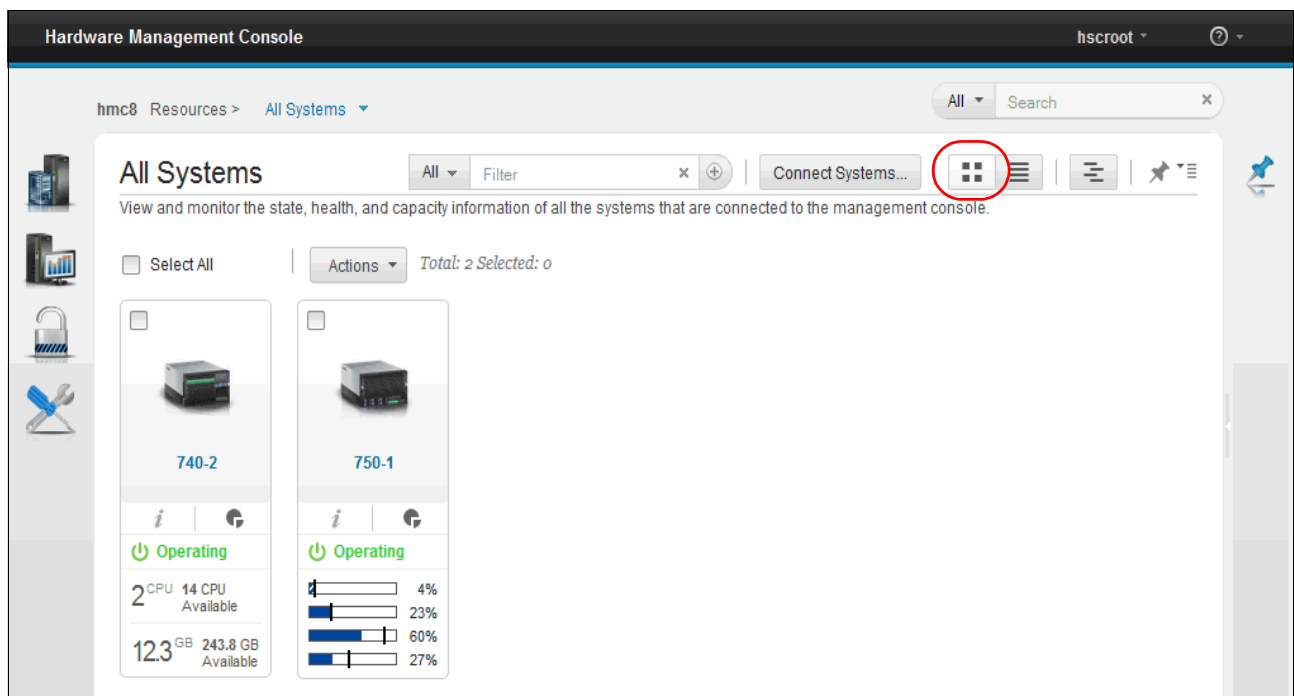

Figure 5-60 Gallery view
After the initial setup and configuration steps, when you log in to the HMC, the server management panel (Resources/All Systems) opens (Figure 5-60).
- The default *Gallery* view is shown in Figure 5-60.